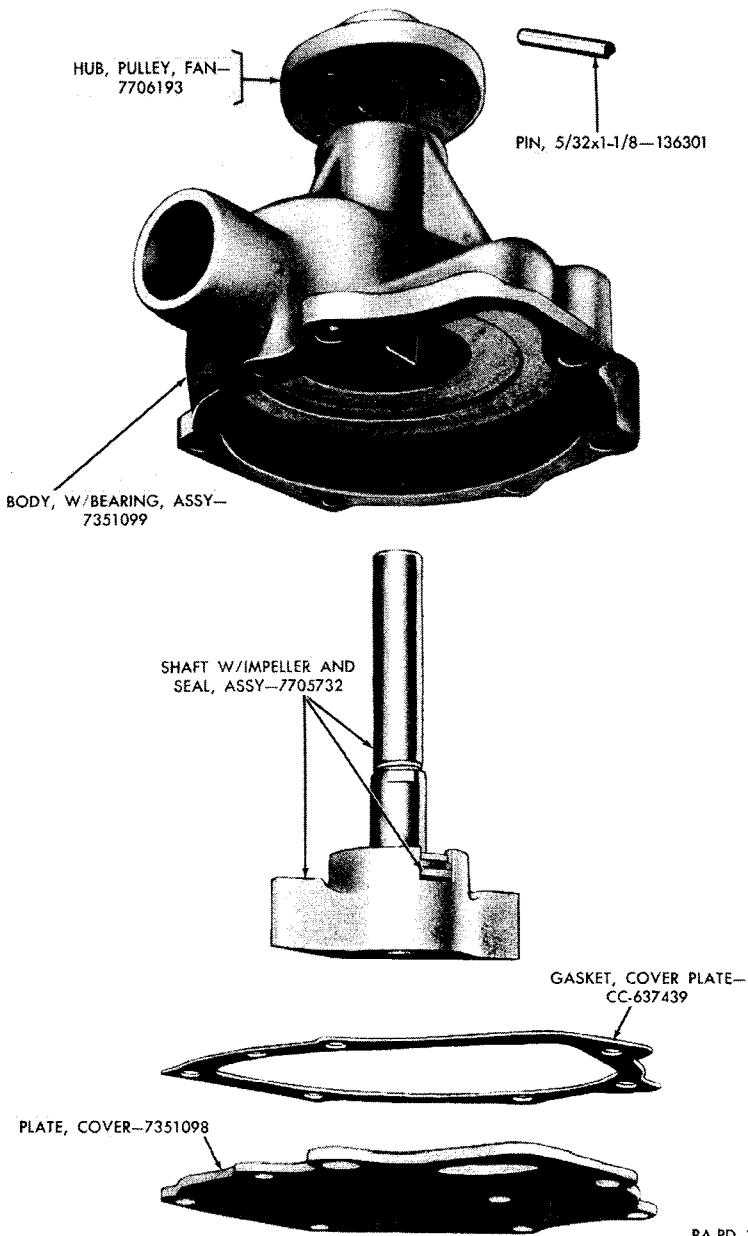

Figure 78. Water pump shaft and impeller removed.
- (2) Remove the water pump cover plate attaching screws and cover plate.
- (3) Pull the shaft, impeller, and seal assembly (fig. 78) out of pump body.